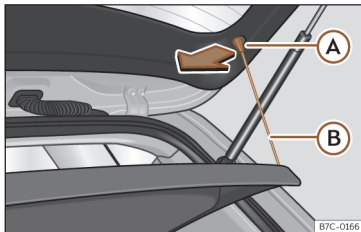

Fig. 115 In the luggage compartment: removing and fitting the shelf.
- Detach the cord loops»» Fig. 115 (A) from their hooks (A).
- Hook the loops»» Fig. 115 (B) to the rear lid.